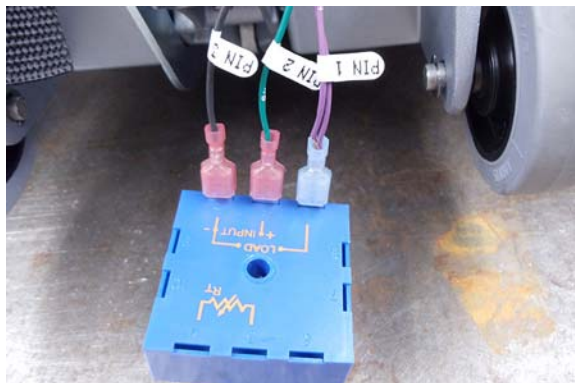

Fig. 7
7. Connect the lithium-ion jumper harness wires to timer module as shown [17/17B purple to pin 1, 15 green to pin 2 and 13Y black to pin 3] (Figure 7).